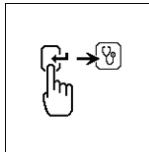

Fig.64
6. Once the black clip is clamped onto the battery [-] terminal, the analyser display will light up as shown. (Fig.64)